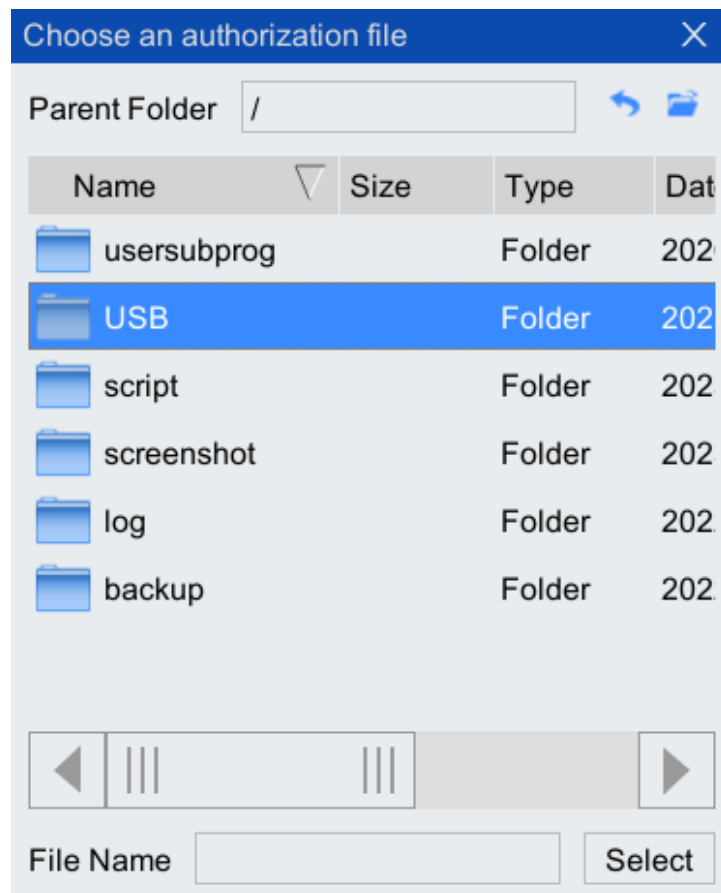

Figure 2-2 Select authorization file dialog box
- Step4. The [Choose an authorization file] dialog box shown in Figure 2-2 pops up. In the pop-up directory, locate the "USB" folder and double-click to enter.